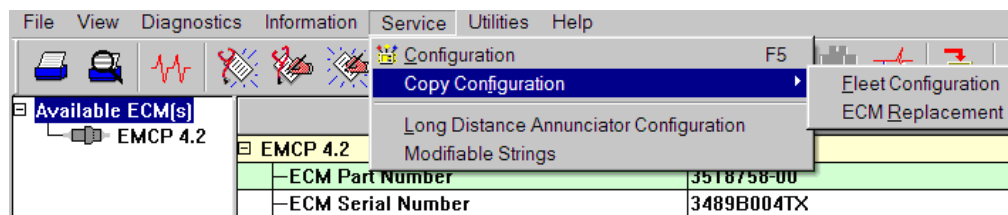

Figure 15.1 – Cat Service Tool EMCP 4 GSC Summary Screen
After connecting to the EMCP 4, navigate to Service > Copy Configuration (see Figure 15.1). There are two options:
1. From the Service Tool menu, select the following: Service > Copy Configuration > ECM Replacement. See Figure 15.1.